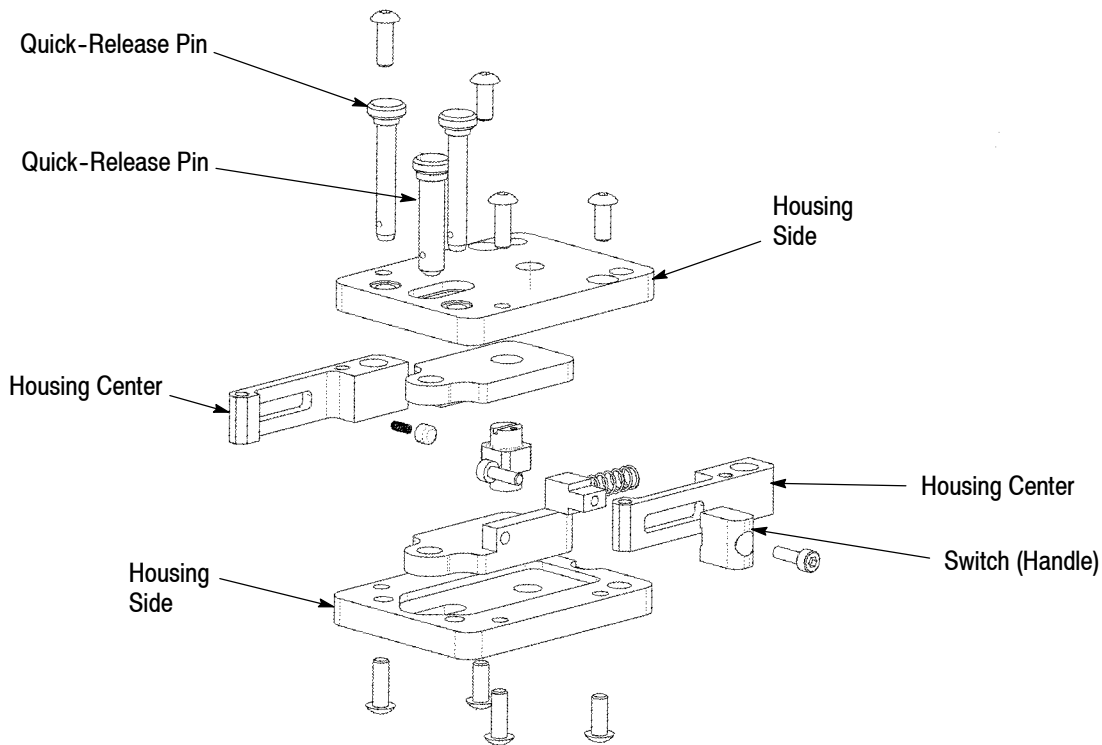
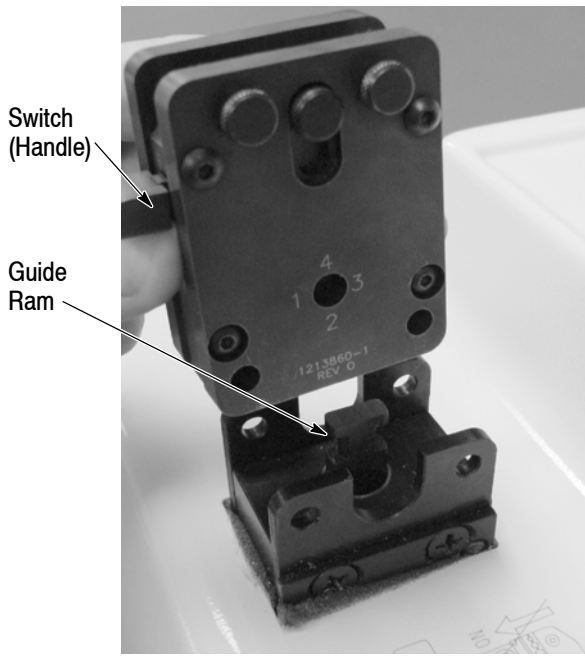
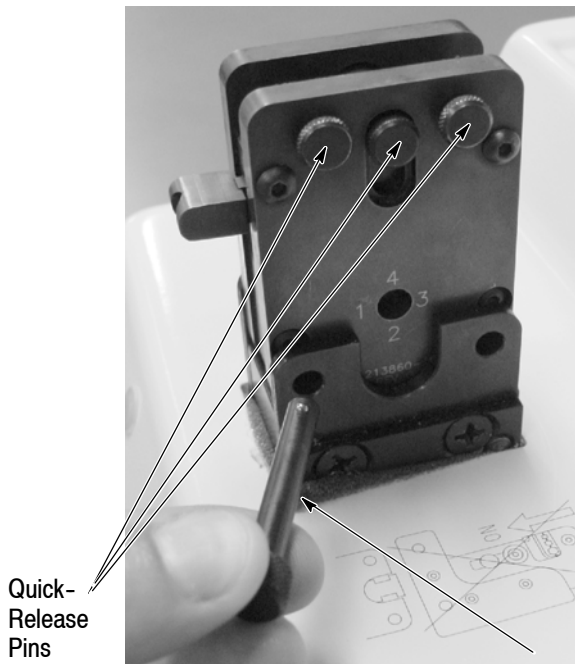

Figure 2
Figure 3
Figure 4
The tool holder assembly features a switch (handle) and three quick pins. See Figure 2. The switch (handle) can be used to manually open and close the dies of the crimping head for insertion and removal of the product.
Before mounting the CERTI-CRIMP II Tool Holder Assembly, always make sure the guide ram of the terminator is in the lowest position. See Figure 3.
3. Mount the tool holder assembly from the back and lock with the guide (safety) pins. Refer to Figure 3 and Figure 4.
As supplied, the tool holder assembly has three quick-release pins installed (Figure 2 and Figure 4 ). The two outer pins will be used to secure the two outer housing tabs of the crimp head (exposed portion of the crimp head) to the tool holder assembly.
1. Remove the quick-release pins shown in Figure 4.